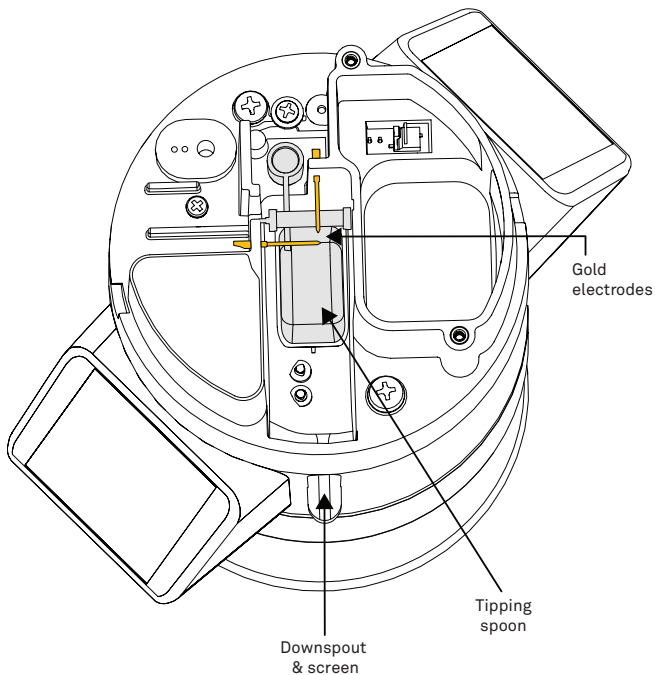

Figure 18 Downspout and screen
2. Check to be sure the downspout screen is in place on the water exit downspout (Figure 18) before replacing the rain funnel.